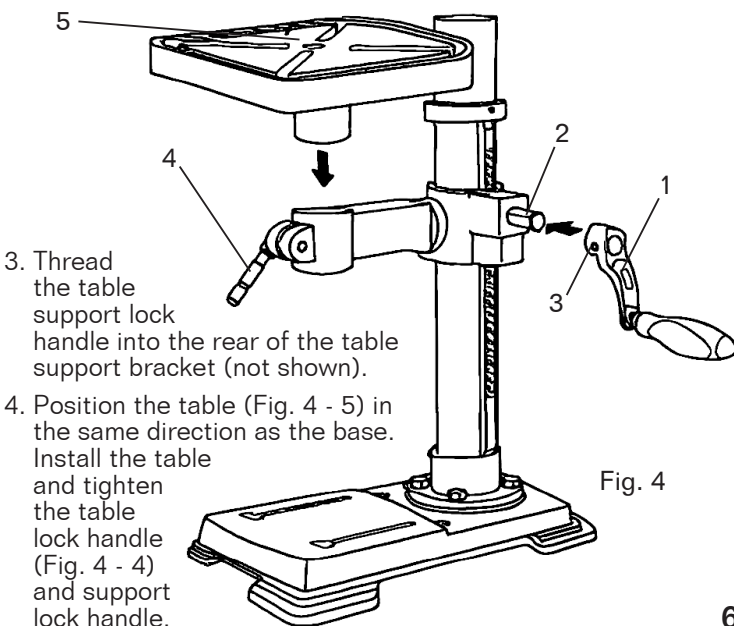

Fig. 4
### TABLE TO TABLE SUPPORT BRACKET (FIG. 4)
1. Place the crank handle (Fig. 4 - 1) onto the shaft (Fig. 4 - 2) of the table bracket so the flat of the shaft is under the set screw (Fig. 4 - 3). Tighten the set screw.
2. Thread the table lock handle (Fig. 4 - 4) into the front of the table support bracket.